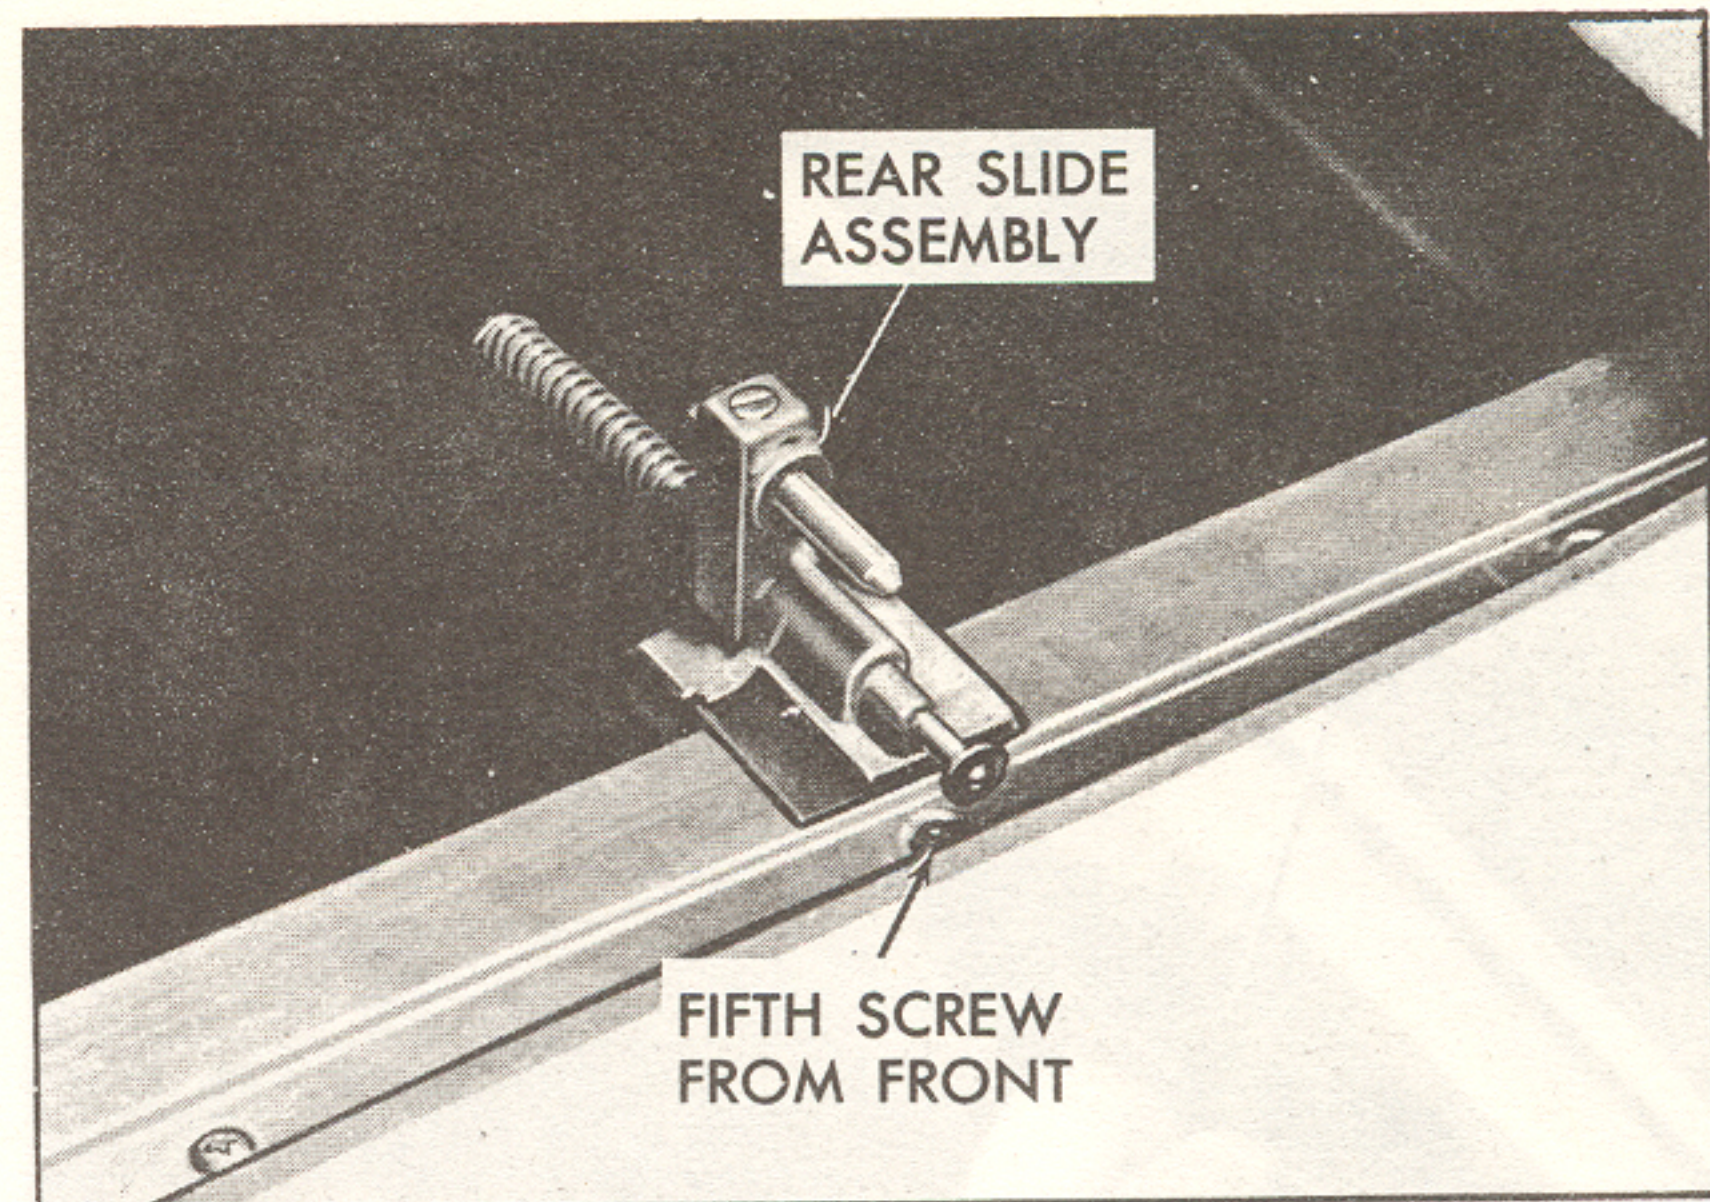

Fig. 22. Rear Slide in Centered Position
1. Position left rear slide in guide track and move slide and cable assembly back until slide is centered with the fifth side guide rail screw from the front, Fig. 22.
6. Recheck rear slides for center position with fifth screw from front on side guide rails, Fig. 22.